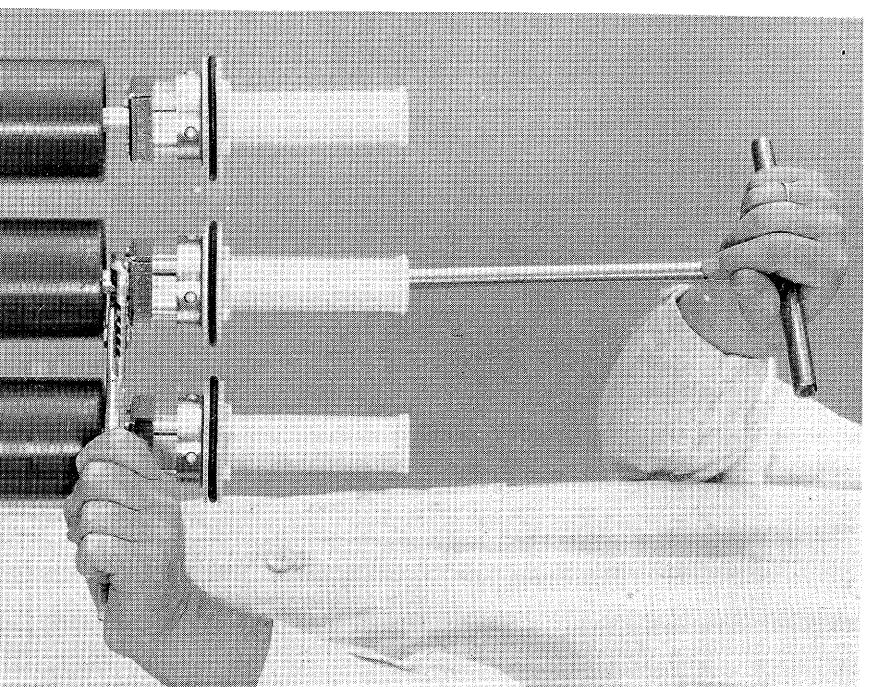

Fig. 36
While tightening the nut, the contact rod has to be held firmly by a pair of tongs (as in Fig. 36). The centre pin, Fig. 4 (40), is then screwed in position.